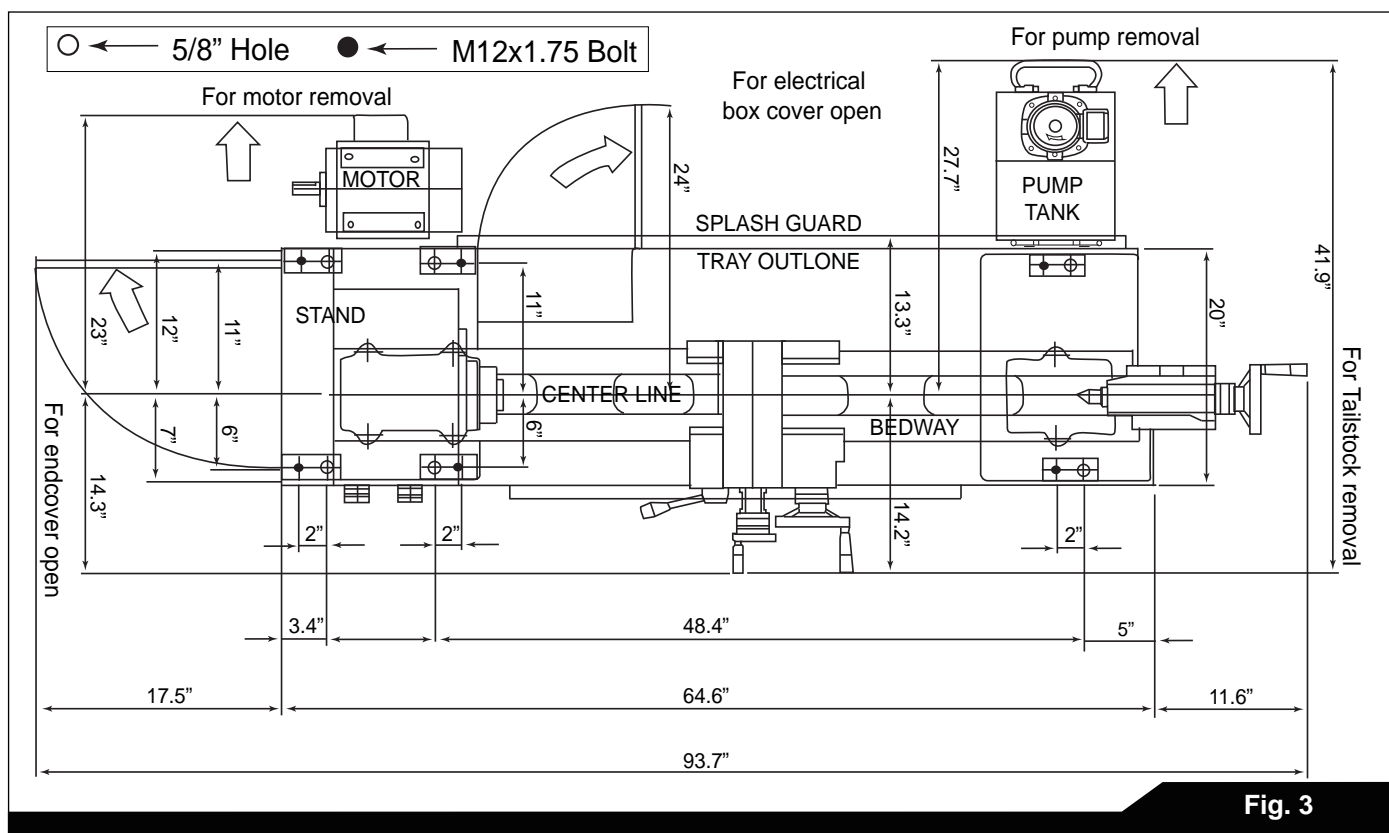

Fig. 3
8. The lathe can be placed upon the cast iron leveling pads under each foot hole, and adjusted using the adjusting bolts with hex nuts. Or, it may be secured to the floor using bolts placed head-down in the concrete, and using shims where needed to level the machine. Refer to Figure 3 for mounting hole locations and dimensions.